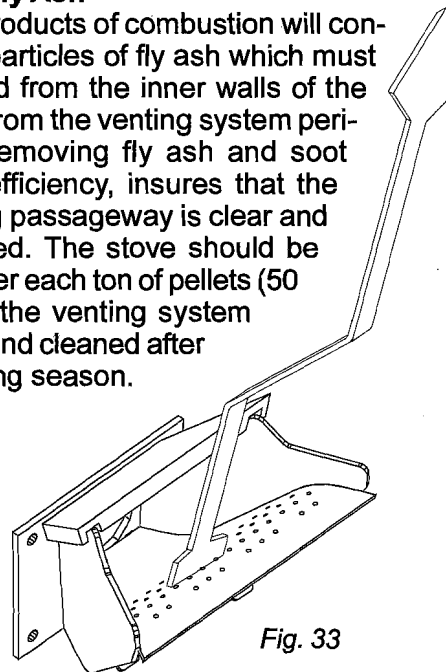

Fig. 33
4. Scrape burnpot with flat end of scraper provided with the stove. Inspect the holes on the burnpot surface. See Fig. 33.